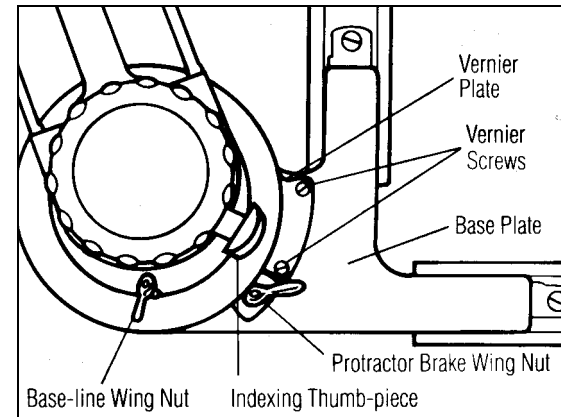

Figure 15
D. Changing Bands (Figure 15)
1. If it becomes necessary to change bands, proceed as follows: First remove the band covers as already described, Then loosen the band in the manner indicated under "Band Tension," making certain that the end of the tube is pressed tightly toward the elbow while being rotated. Otherwise the thrust screw head will poll away from the band-tightening pin which has been inserted in the pin hole. The tube should be rotated until it actually comes to a stop. Now press the elbow bracket and the head bracket, or the support bracket, as the case may be, as closely together as possible and slide the band down out of its groove in the head pulley or mast pulley. In removing the lower band, it is necessary to rotate the entire head so that the base-line wing nut (Fig. 15) is approximately under the arm in order that it not interfere with the band when it is slid downward out of its groove. Next, remove the band from its groove in the elbow pulley and you will find that there is sufficient slack in the band to permit its removal from the elbow bracket. This operation is easiest to perform if the protractor head is placed near the clamp so that there is only a small angle between the arms. After this step, the parts can be separated.
E. Base-Line Wing Nut Position (Figure 15)
For greatest convenience, the base-line wing nut should occupy a position approximately as shown on Fig. 15. The drafting machine is usually clamped at the back edge of the table as previously shown. However, some draftsmen prefer to have it attached to the left-hand edge and when this is done the base-line wing nut may be near the vernier, a very undesirable position. To position this wing nut properly, it is only necessary to loosen the band as previously described, rotate the entire head until the wing nut is properly positioned, and then tighten the band.